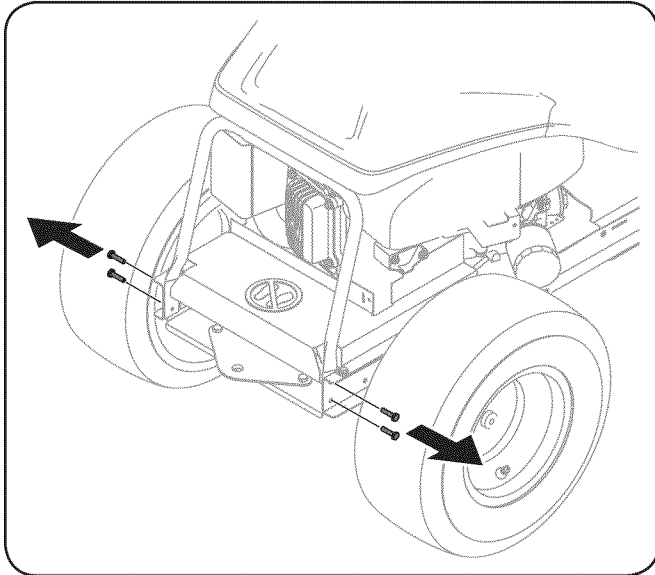

Figure 1
1. Remove, and discard, the four self-tap bolts on the rear frame of the tractor, as shown in Figure 1.